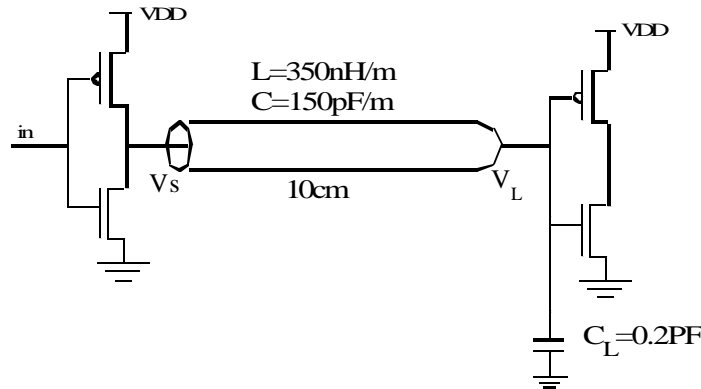

Figure 1: Transmission line.
- The Figure 1 shows an output driver feeding a 0.2 pF effective fan-out of CMOS gates through a transmission line. Size the two transistors of the driver to optimize the delay. Sketch waveforms of  $V_S$  and  $V_L$ , assuming a square wave input. Label critical voltages and times.